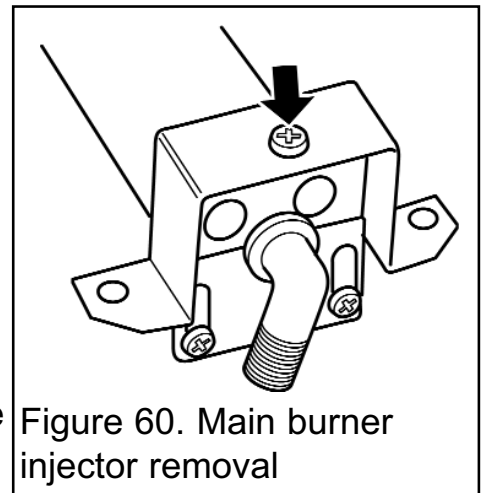

Figure 60. Main burner injector removal
(See figure 60).
2. Remove the burner clamping screw (See figure 60)